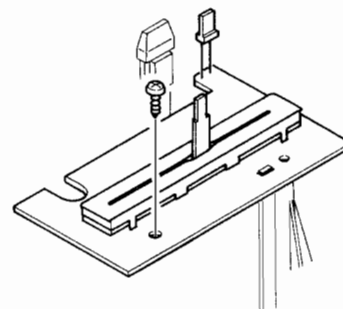

Fig. 5
- 1) Remove the single screw. (See Figure 5)